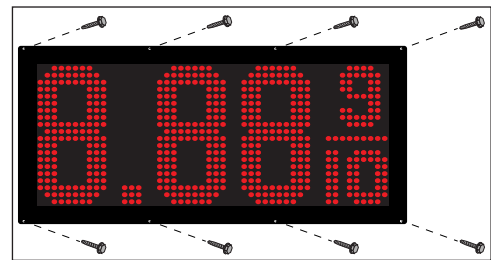

Figure 4: Secure Display in Sign Structure
5. Attach the display to the structure using appropriate hardware for site conditions. Refer to **Figure 4**. Actual site demands will dictate variances and appropriate mounting methods.